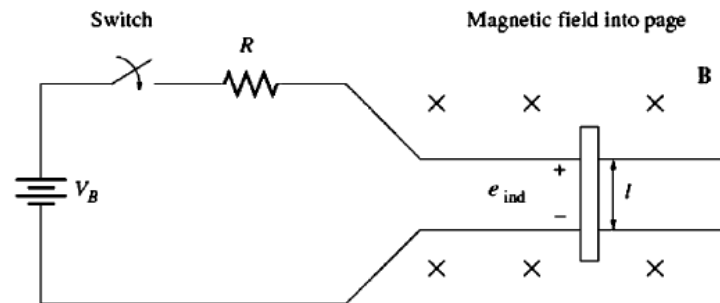

FIGURE 1-19
3. Kirchhoff's voltage law for this machine. From Figure 1-19 this law gives